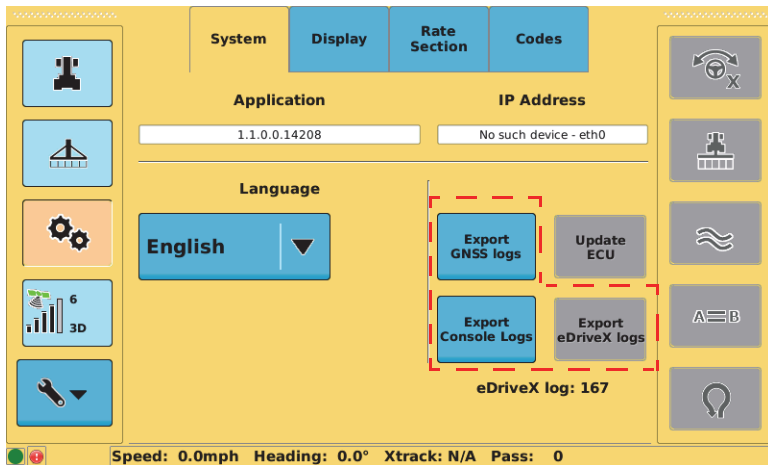

Figure 2-8: Export logs buttons
1. Press the **Tools** screen button, and, if the System screen is not displayed, press the **System** tab. The System screen appears (see Figure 2-8 on page 31).